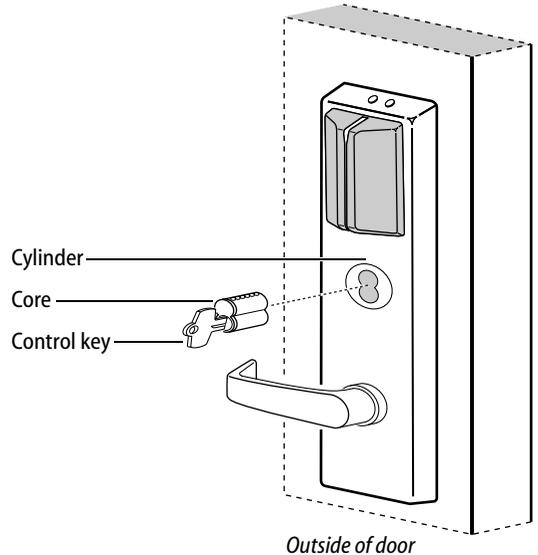

Figure 13 Installing the core (B.A.S.I.S. & NT500 shown)
- 1 Insert the control key into the core and rotate the key 15 degrees to the right.
- 2 With the control key in the core, insert the core into the cylinder as shown in Figure 13.
- 3 Rotate the control key 15 degrees to the left and withdraw the key.